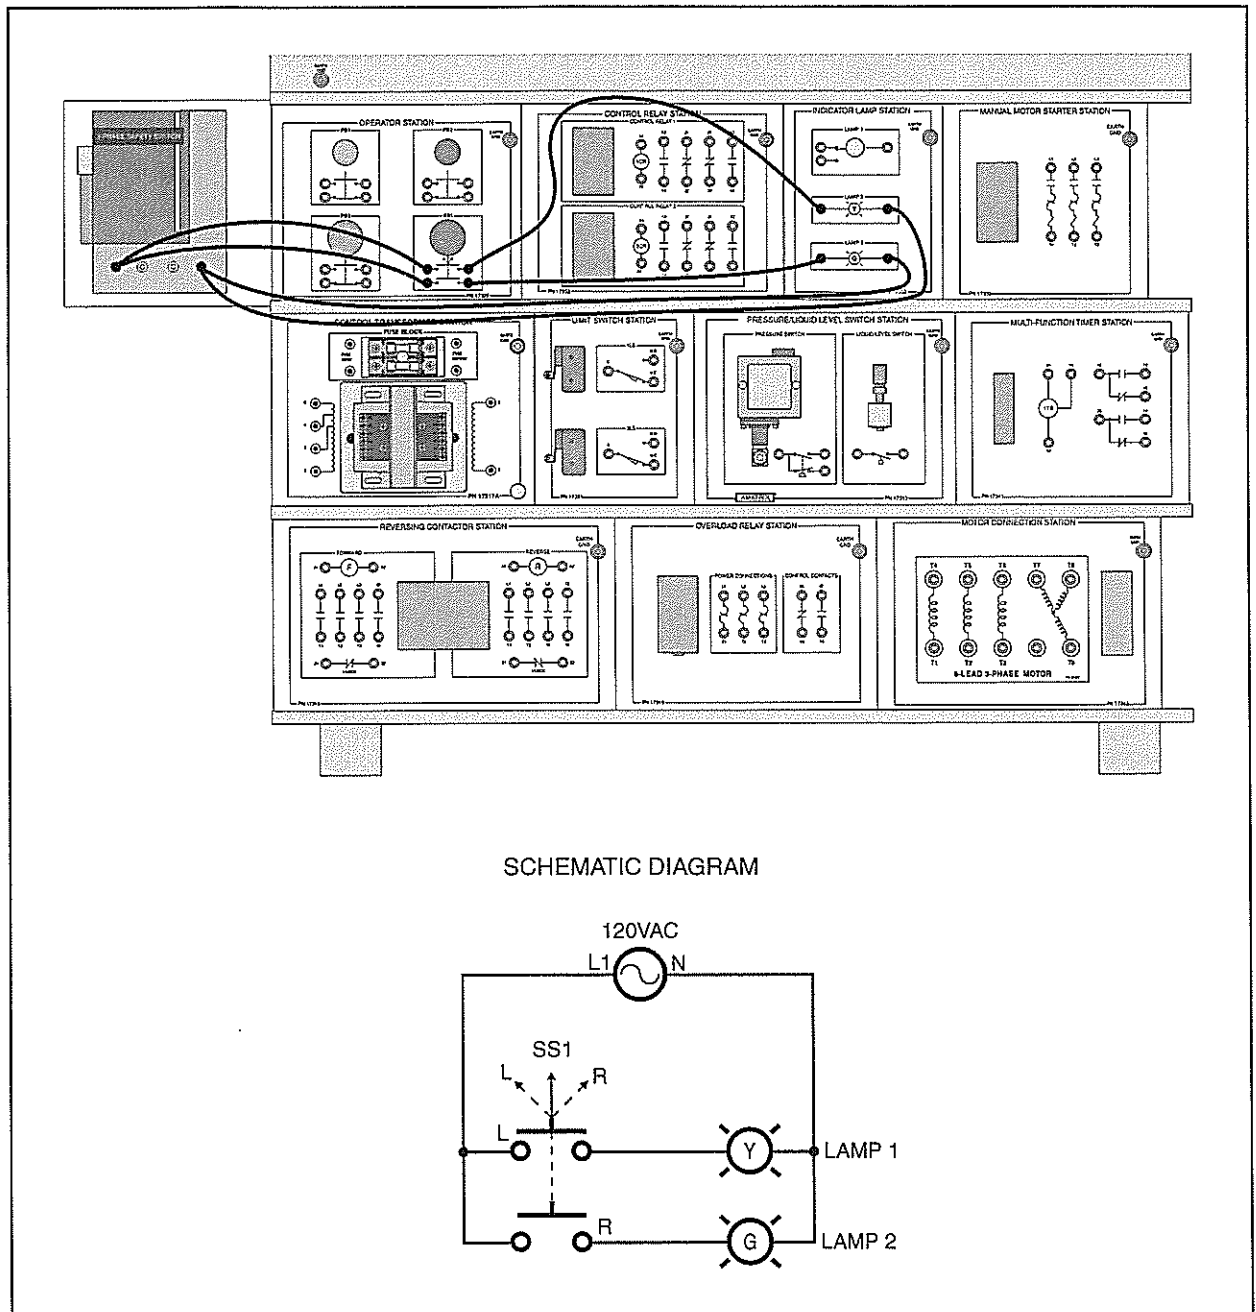

Figure 18. Pictorial and Schematic Diagrams of Indicator Lights Connected to 120 VAC through the Contacts of the Selector Switch SS1
- 2. Connect two indicator lamps to 120 VAC through the contacts of a three-position selector switch, as shown in figure 18.